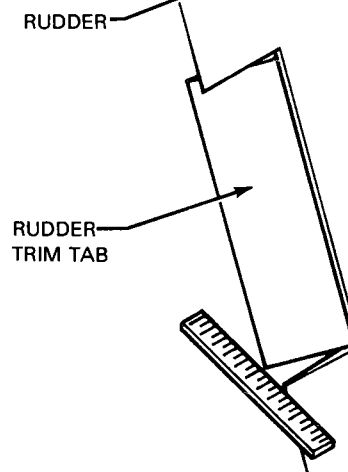

FIGURE 2
When measuring left and right trim tab travel, linear dimensions must be taken between centerline of rudder trailing edge and centerline of trim tab trailing edge (along bottom of trim tab) as shown on Sketch "B", Figure 2.
- b. Inspect the forward rudder spar area, as shown in Figure 2, for interference with trim screw roll pin and pivot links. (NOTE: Trim screw forward stop must be able to bottom against housing without roll pin and/or pivot links touching rudder spar).
- (1). If trim screw forward stop has bottomed against drum housing and no interference is evident, proceed to step 5.
- (2). If trim screw forward stop is unable to bottom against the drum housing, mark interference point(s) as shown in Figure 2.
- (3). Move rudder and rudder trim tab to a suitable position to enable interference point(s) to be reworked. NOTE: It is helpful to disconnect control rod from drum to gain access for filing.
- (4). Carefully rework rudder spar as marked per step (2), and dimensions given in Figure 2.